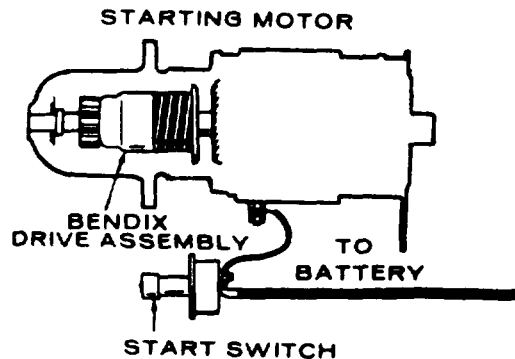

Figure 5-29. Bendix-Drive Starter
e. Bendix Drive. The starter uses a bendix-drive shown in figure 5-29. The bendix-drive starting system is mounted on a shaft which extends from the starter motor. When not running, the bendix is retracted so it clears the flywheel ring gear. When starting, a spiral spring on the bendix through increasing speed forces the bendix-drive pinion into the flywheel ring gear. Pinion and flywheel ring gear teeth are beveled on ends to ensure their engaging properly.